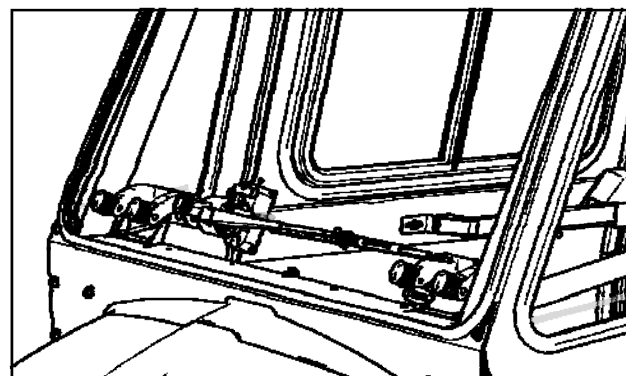

Figure 14.6: Wiper arm placement
- 14.6 Place the wiper arm onto the motor shaft, with the arm pointed towards the driver's side and the wiper blade above the windshield latch. **(Figure 14.6)**